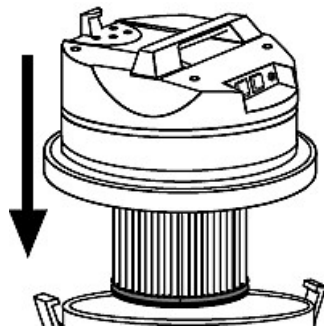

Fig. 6: Assembly of the engine head
- Place the motor head on the container and secure with the clamps on the left and right. (Fig. 6).